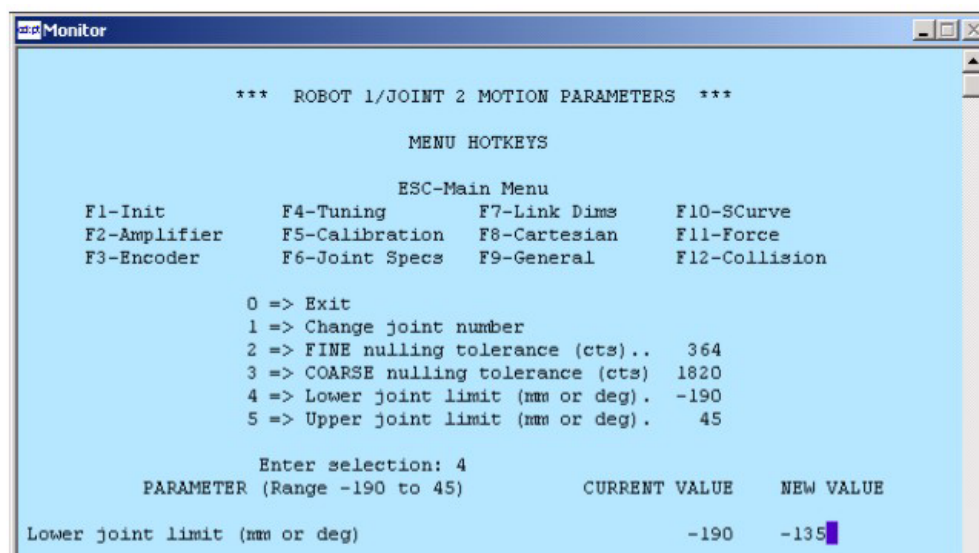

Figure 2-5. Joint 2 Menu - Lower Limits
6. In the next menu (see Figure 2-5), enter the new value for the Joint 2 lower limit softstop. See Table 2-2 for recommended softstop values. Note that this value must be a negative number.